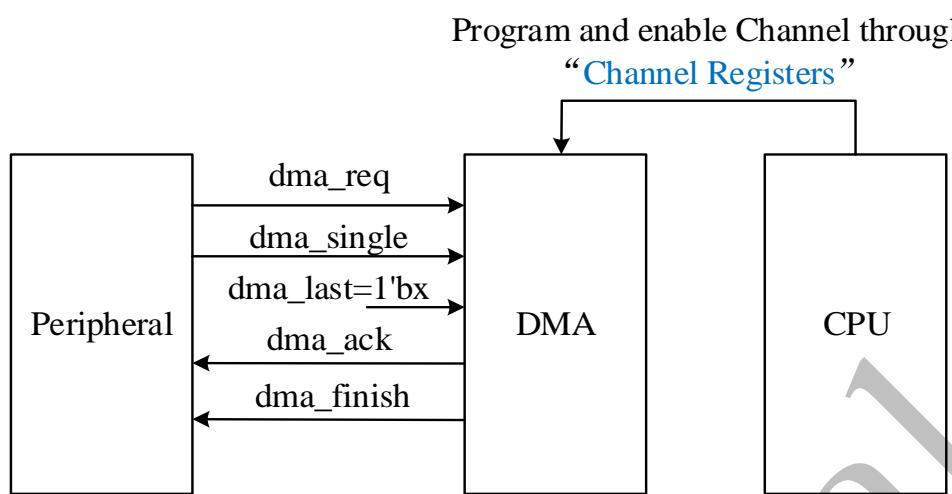

Figure 3-27 Hardware Handshaking Interface
- Figure 3-27 illustrates the hardware handshaking interface between a peripheral – whether a destination or source – and the DMA when the DMA is the flow controller.